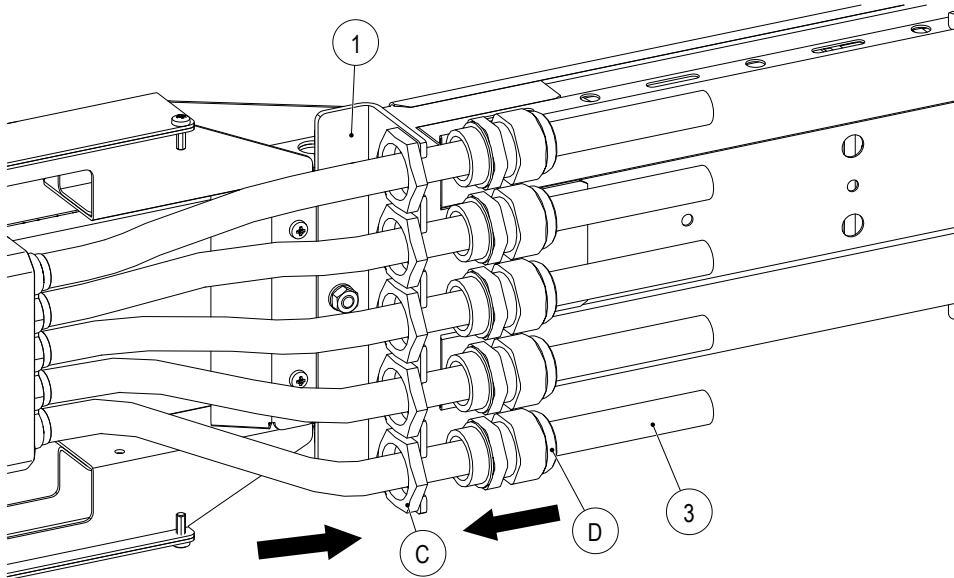

Fig. 70: Screw connecting cables (3) to strain relief plate (1)
- Tighten the strain relief plate (1) on the fastening frame with the hexagon nut (A) and the spring washer (B) using an open-end wrench SW10 (see Fig. 70).